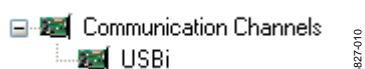

Figure 10. Adding the USBi Communication Channel
3. To use the USBi in conjunction with SigmaStudio, first select it in the **Communication Channels** subsection of the toolbox on the left side of the **Hardware Configuration** tab (see Figure 10). Add it to the project space by clicking and dragging it to the right.